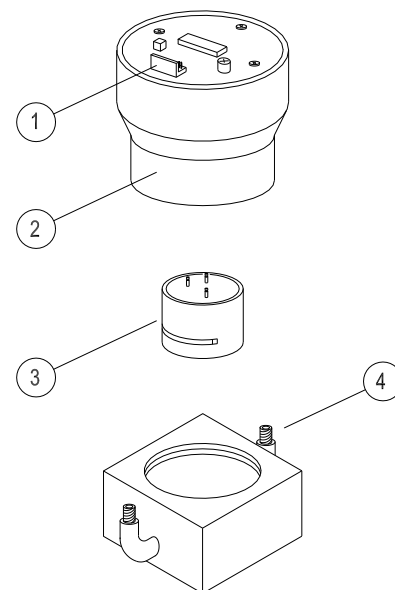

Fig. 4.2.14
Gas sensor	Internal sensor element (fig 4.2.14 item 3)
Please follow the sequential steps below to replace the gas sensor (See fig. 4.2.14).